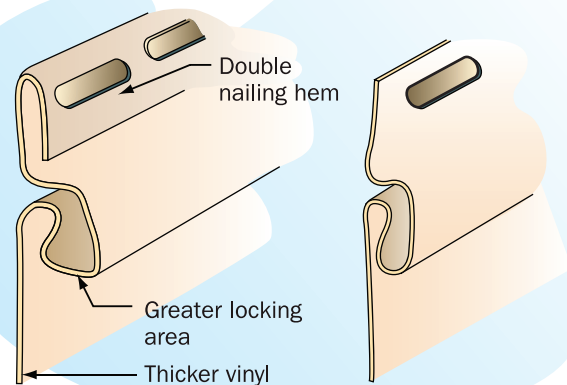

Figure 1. Features of typical high-wind siding and standard siding.
- Products that have been rated for high winds typically have an enhanced nailing hem and are sometimes made from thicker vinyl (Figure 1). Thick, rigid panels provide greater wind resistance, withstand dents, and lie flatter and straighter against the wall. Optimum panel thickness should be 0.040 to 0.048", depending on style and design. Thinner gauge vinyl works well for stable climates; thicker gauge vinyl is recommended for areas with high winds and high temperature changes.